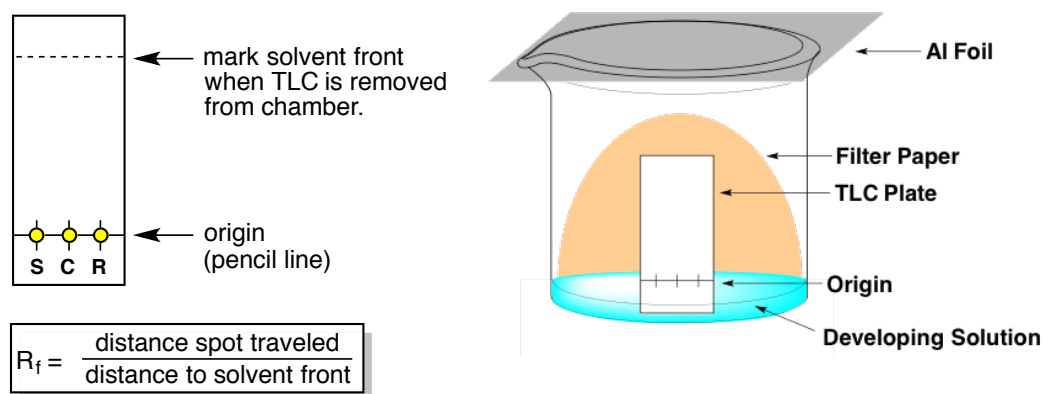

Figure 6. Thin Layer Chromatography
**TLC:** You should check the reaction by TLC to ensure that it went to completion. *Refer to experiment 7 from Chem 235 to review TLC.* Prepare a TLC plate as shown in figure 6. Using a spotter, spot the product solution at C (co-spot) and P (product). The solution is sufficiently concentrated that you should only need to spot once. Prepare a starting material solution by dissolving 1 drop of benzaldehyde in 1 mL of hexanes. Place one spot of this solution at S (starting material) and at C (co-spot). Place the TLC plate in a developing chamber containing a 10% ethyl acetate/hexanes mobile phase. Visualize the developed TLC using a UV lamp.